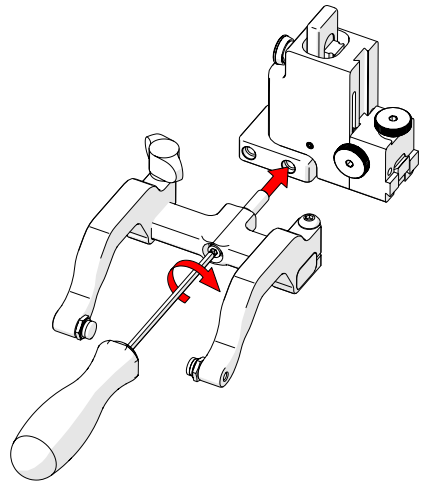

Fig. 86 - Screw into threaded hole
7. Screw the yoke to the probe holder (Fig. 86).